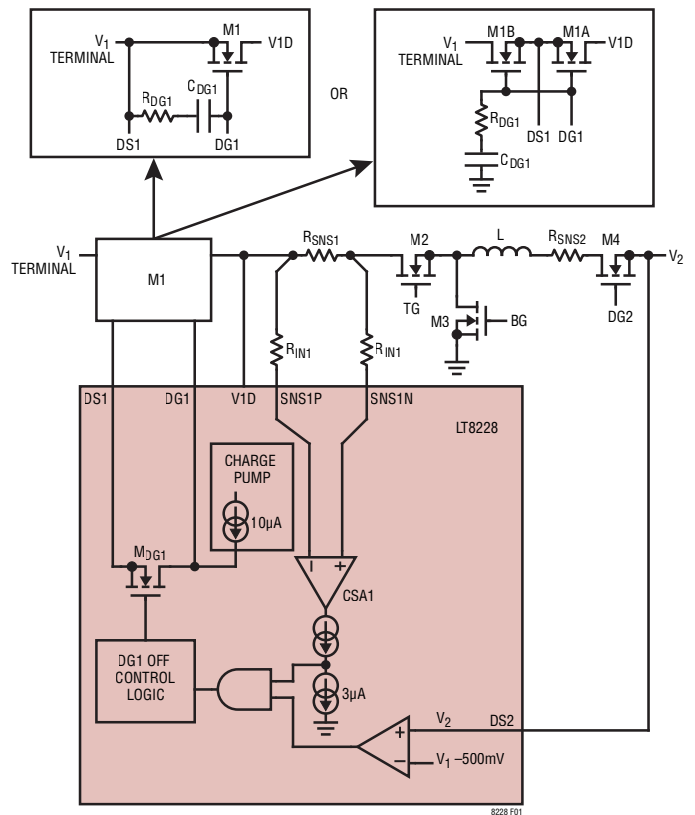

Figure 1. M1 Control in Buck Mode
The LT8228 provides protection functionality at the V₁ terminal using two N-channel MOSFETs M1A and M1B connected back-to-back in series or a single N-channel MOSFET M1 as shown in Figure 1. In dual MOSFET back-to-back configuration, DS1 is the source and DG1 is the gate of both M1A and M1B. V1D is the drain of M1A and V₁ is the drain of M1B. In single MOSFET configuration, the source of M1 is connected to DS1 and the V₁ terminal, DG1 is the gate and V1D is the drain. The advantages of the dual MOSFET configuration are inrush current control and complete isolation of the V₁ terminal in a fault condition. In normal operation, the controller drives DG1 high with a typical 10μA pull-up current that enhances the V₁ protection MOSFETs to provide a low loss conduction path between V₁ and V1D. The DG1 voltage is clamped at a typical value of 10V above DS1. The DG1 controller shorts DG1 to DS1 thereby isolating V₁ from the rest of the circuit when (1) the LT8228 is disabled or
The buck mode operation circuitry of the V_1 protection MOSFET controller is shown in Figure 1. Without protection MOSFETs, there is a direct conduction path from V_2 to V_1 through the body diode of the top MOSFET M2. If V_2 is higher than V_1 by a forward diode voltage, uncontrolled reverse current flows from V_2 to V_1 . Unlike other buck controllers, the LT8228 provides protection from this reverse current condition using the V_1 protection MOSFET. If V_1 falls within 500mV of V_2 and R_{SNS1} current passes negative threshold, the LT8228 detects reverse current. A fast pull-down circuit shorts DG1 and DS1, turning off M1. This isolates V_1 from V1D and stops any reverse current. The reverse current detect threshold is set by Equation 11.
In dual MOSFET configuration, inrush current to C_{DM1} and C_{DM2} in buck mode is limited by controlling the DG1 pin voltage slew rate. In this configuration, the compensation resistor R_{DG1} and capacitor C_{DG1} are ground referenced as shown in Figure 1. At start-up, a $10\mu A$ pull-up current charges DG1, pulling up both MOSFET gates. M1B operates as a source follower (see Equation 12).